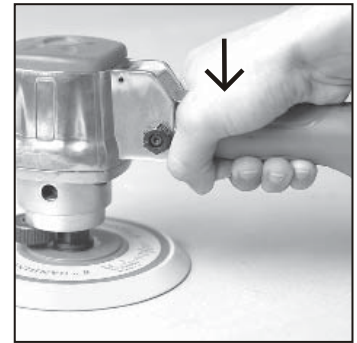

Figure 5
7. Press the trigger to start tool. (See figure 5)